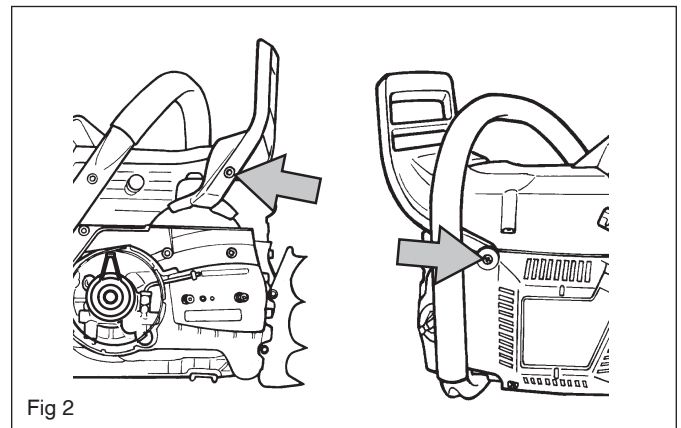

Fig 2
4. Remove the hand guard, two screws. Note the sleeve on the starter side. See fig. 2.